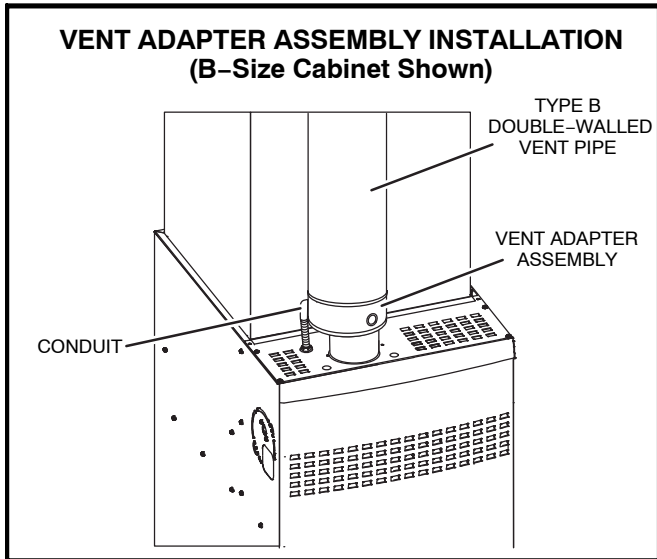

FIGURE 4
- 3 - Position the vent adapter assembly on the furnace flue transition as shown in figure 4 (location II).